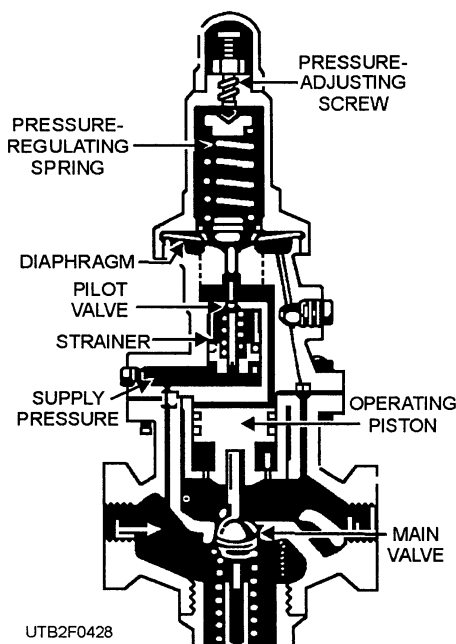

Figure 4-28.—A gas pressure regulator.
**GAS PRESSURE REGULATOR.**—The gas pressure regulators used in domestic gas-heating systems are usually of the diaphragm type, as shown in figure 4-28. A gas pressure regulator maintains the desired pressure in the burner as long as the gas main